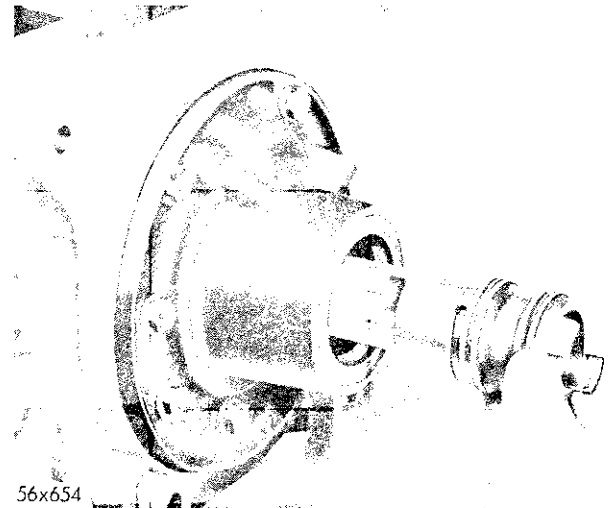

Fig. 80—Installing Front Oil Pump Drive Sleeve
(3) Lubricate the front pump drive sleeve. With a slight rotating back and forth motion install sleeve (smooth bearing surface first) being sure the drive lugs engage in the oil pump inner rotor and can be rotated freely, Figure 80. **The main body of the driving sleeve should be flush with oil pump housing when properly installed and the neoprene seal ring will not be visible. If the rotors do not turn freely, remove the pump and check for foreign matter between the pump rotors and housing (Fig. 81).**
(4) Install the torque converter control valve spring, retainer and gasket and tighten 35 to 40 foot-pounds torque.